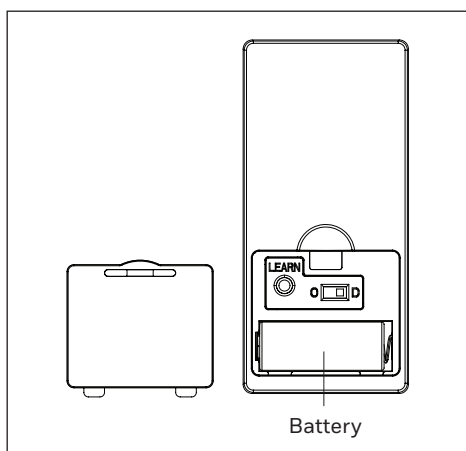

Figure 2.1
1. Remove the battery door from the back of the remote using a flat-head screwdriver (not included). Insert the battery; ensure polarity of battery matches the polarity indicated in the battery compartment -- positive (+) to positive (+) and negative (-) to negative (-). Replace the battery cover (Figure 2.1),